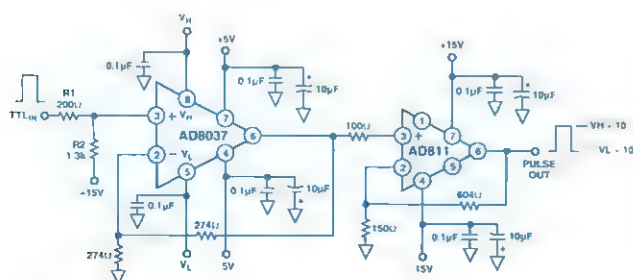

Figure 8. Programmable pulse generator.
**Programmable pulse generator:** The AD8036/AD8037's clamp output can be set accurately and has a well-controlled flat level. Combining this with wide bandwidth, high slew rate, and low overshoot, they are well suited for programmable-level pulse generators. Figure 8 is a schematic of a pulse generator that can directly accept TTL timing signals at its input and generate output pulses of up to 24 V p-p with 2500 V/μs slew rate. The output levels can be programmed by  $V_H$  and  $V_L$  to any voltages in the range from -12 to +12 V.